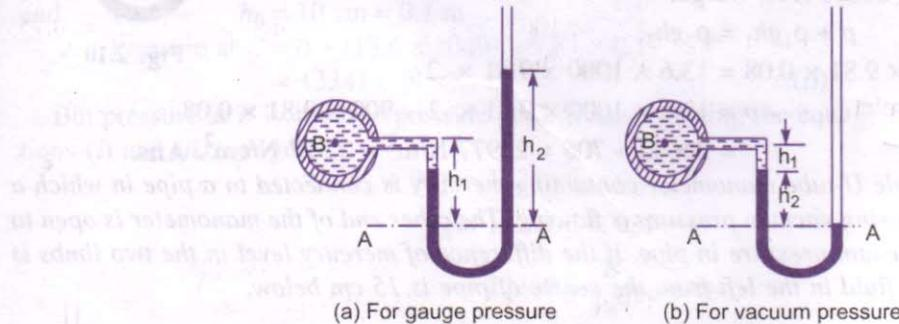

Fig. 2.9 U-tube Manometer.
2.6.2 U-tube Manometer. It consists of glass tube bent in U-shape, one end of which is connected to a point at which pressure is to be measured and other end remains open to the atmosphere as shown in Fig. 2.9. The tube generally contains mercury or any other liquid whose specific gravity is greater than the specific gravity of the liquid whose pressure is to be measured.
(b) **For Vacuum Pressure.** For measuring vacuum pressure, the level of the heavy liquid in the manometer will be as shown in Fig. 2.9 (b). Then